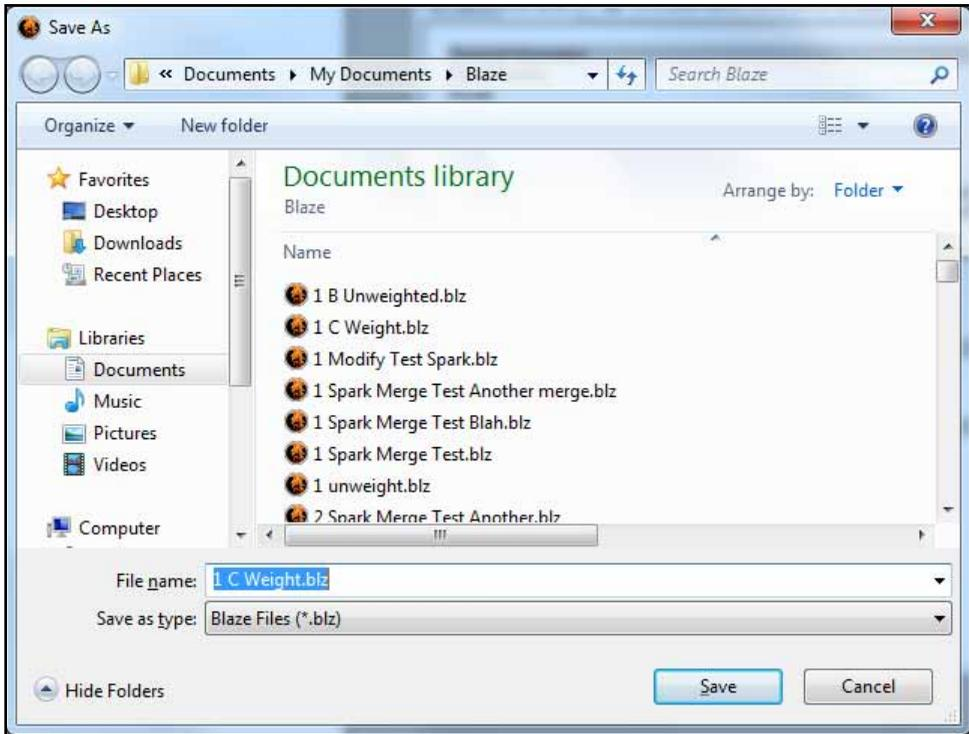

FIGURE 3-19 Save As Dialog Box
This will open the Save As dialog box shown in FIGURE 3-19.
Step 3 Use the down arrow key in the “Save in:” window at the upper left to identify the folder into which to save the file, type a file name into the “File name” field and left click **Save** as shown in FIGURE 3-19.